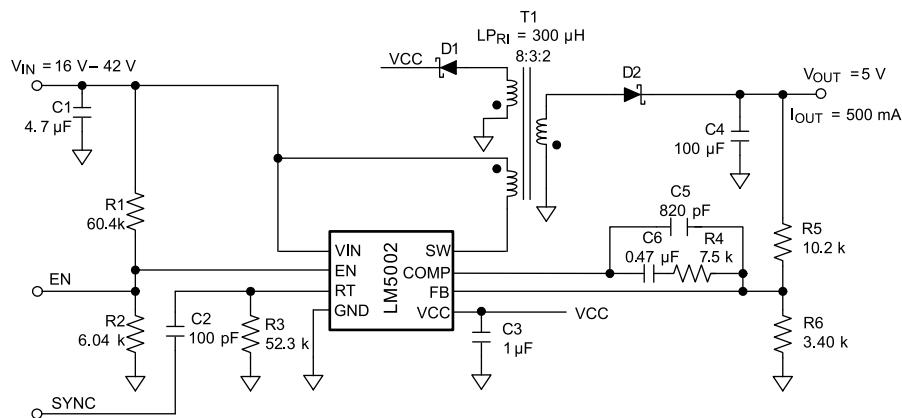

**Figure 8-4. Soft-Start Circuit**
Internal thermal shutdown circuitry is provided to protect the IC in the event the maximum junction temperature is exceeded. When the 165°C junction temperature threshold is reached, the regulator is forced into a low power standby state, disabling all functions except the VCC regulator. Thermal hysteresis allows the IC to cool down before it is re-enabled. Note that because the VCC regulator remains functional during this period, the soft-start circuit shown in Figure 8-4 must be augmented if soft start from thermal shutdown state is required.
Soft start (SS) can be implemented with an external capacitor connected to COMP through a diode as shown in Figure 8-4. The COMP discharge MOSFET conducts during Shutdown and Standby modes to keep the COMP voltage below the PWM offset (1.3 V), which inhibits PWM pulses. The error amplifier attempts to raise the COMP voltage after the EN pin exceeds the 1.26 V standby threshold. Because the error amplifier output can only sink current, the internal COMP pullup resistor (approximately  $5\text{ k}\Omega$ ) supplies the charging current to the SS capacitor. The SS capacitor causes the COMP voltage to gradually increase until the output voltage achieves regulation and FB assumes control of the COMP and the PWM duty cycle. The SS capacitor continues charging through a large resistance,  $R_{SS}$ , preventing the SS circuit from interfering with the normal error amplifier function. During shutdown, the VCC diode discharges the SS capacitor.